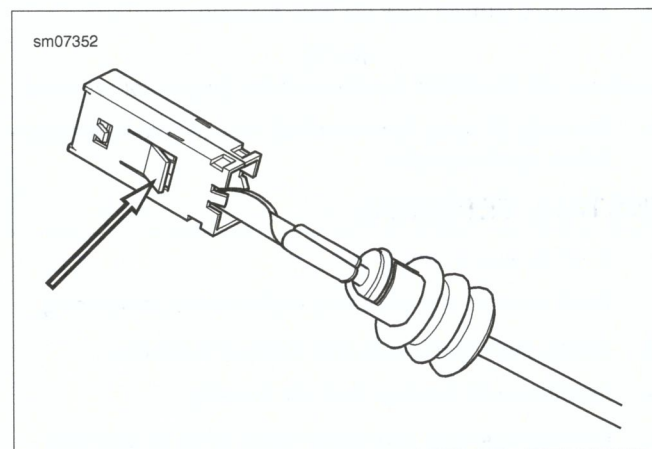

Figure A-2. Tangs: Bosch Compact 1.1M Socket Terminal
1. See Figure A-2. Bend the tangs on each side of the terminal outward.